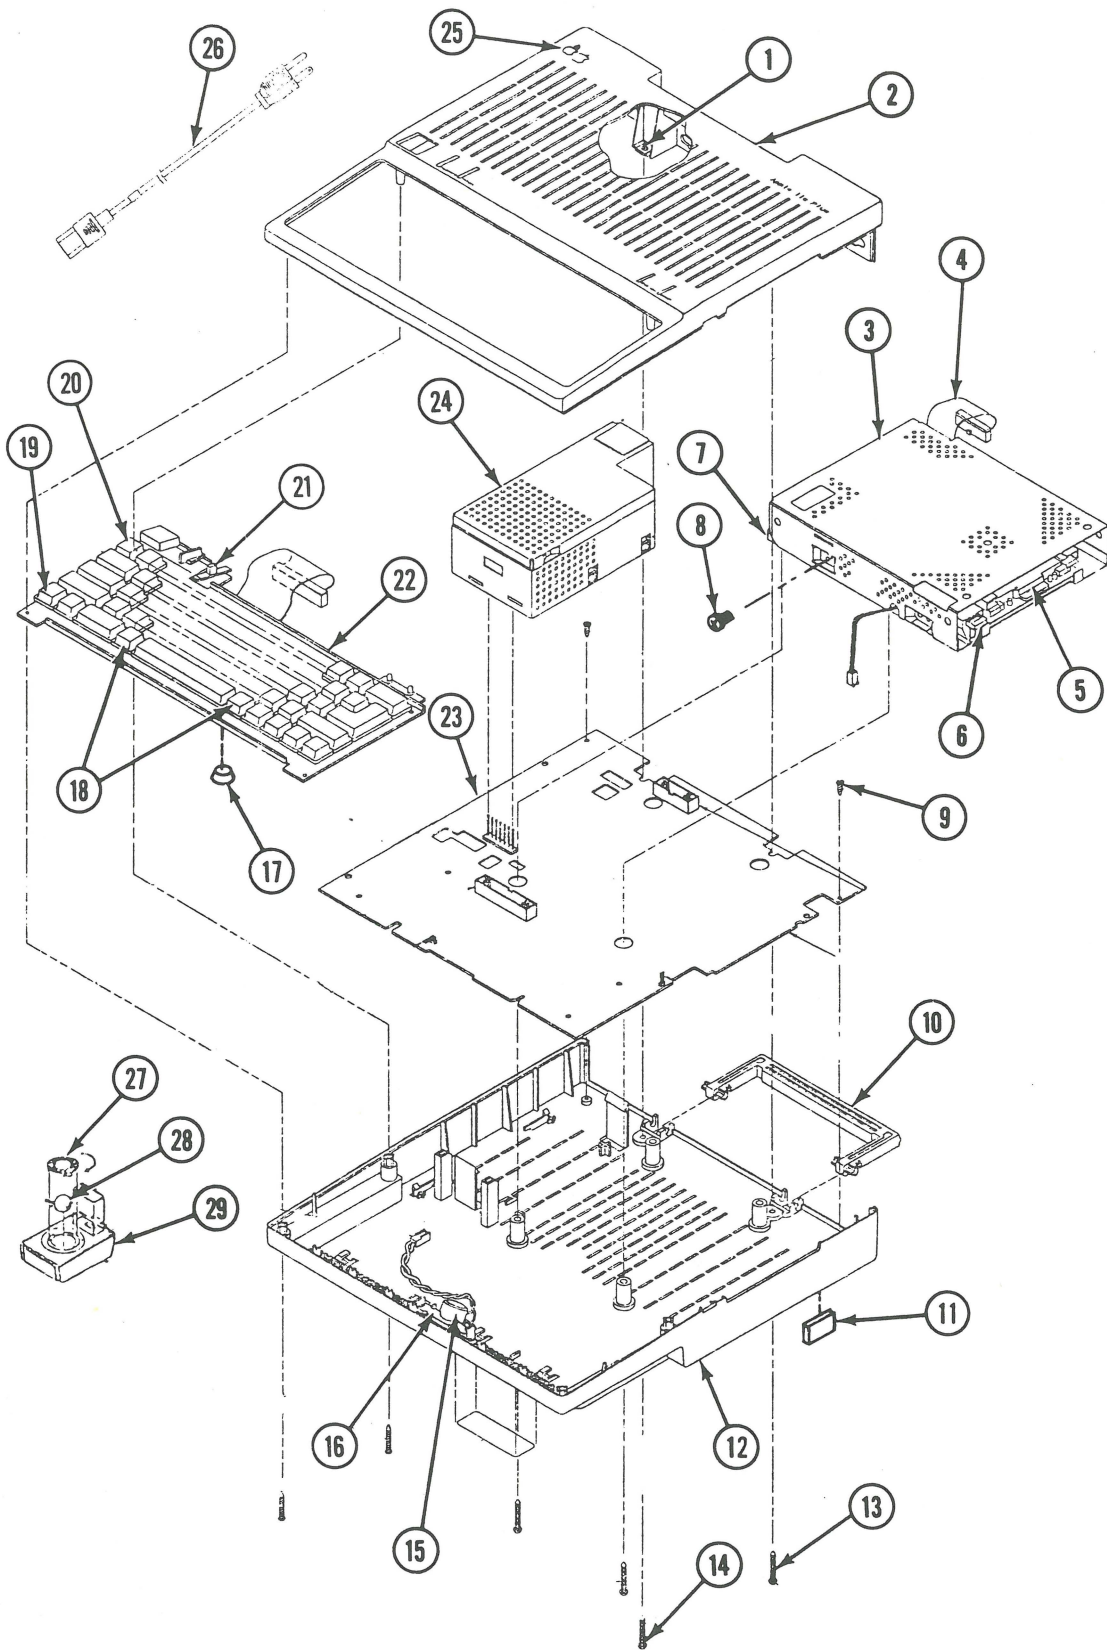

FIGURE 1
IPL.3 Finished-Goods Assembly (Figure 1)
□ **FINISHED-GOODS ASSEMBLY (Figure 1)**